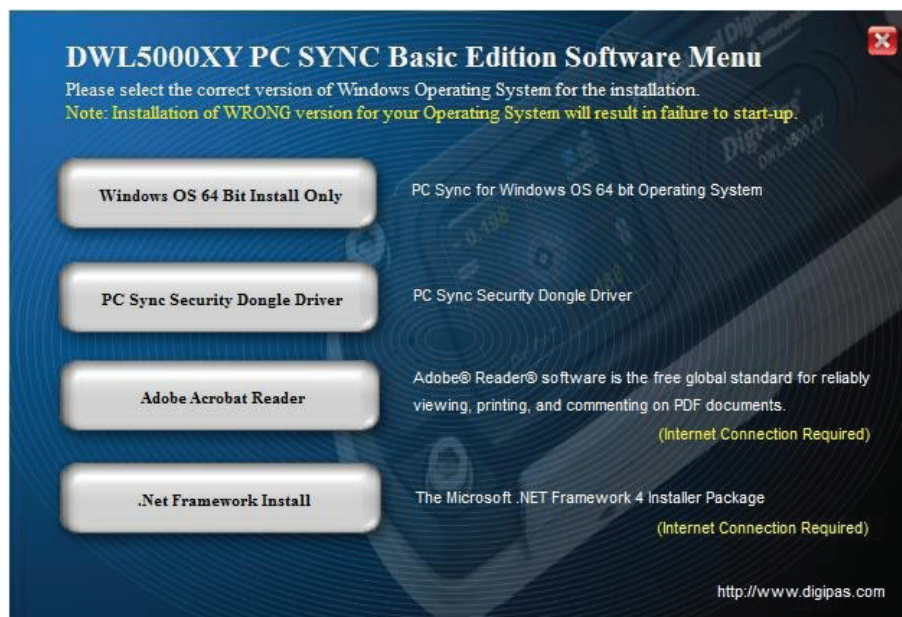

Figure 21. Interface of the software installation page
1. DWL5000XY, DWL5500XY or DWL5800XY PC Sync Software Basic Edition CD comes together with the tilt sensor module package. Insert the PC Sync Software CD to the PC, auto-run screen appears as in Figure 21. Click on “Windows OS 64 Bit Install Only” button to start the installation. Alternatively, DWL5000XY or DWL5500XY PC Sync Software Basic Edition can be downloaded from <https://www.digipas.com/support/firmware.php>.